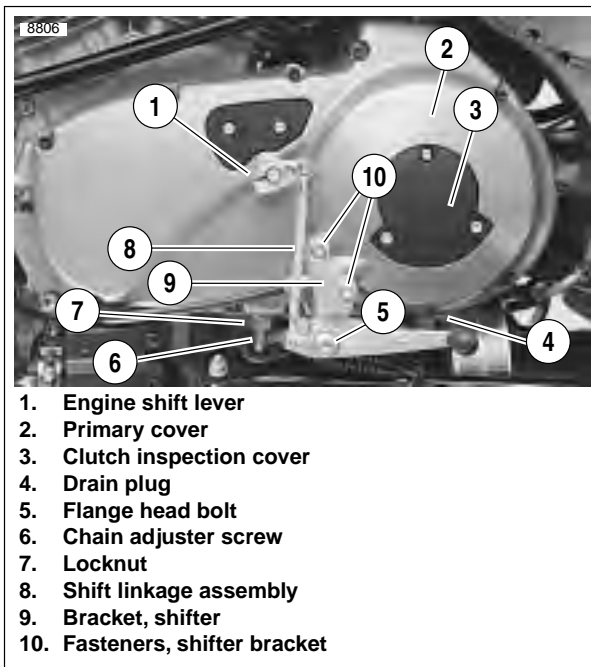

Figure 6-8. Removing Primary Cover
12. See Figure 6-8. Install shifter bracket (9) on primary cover (2) by applying loctite 271 (red) to fasteners and tightening to 22-24 **ft-lbs** (30-32.5Nm).
13. Install rubber washer and engine shift lever assembly (1).
14. After applying LOCTITE 271 (red), install flange bolt (5) and shift pedal to shifter bracket, and tighten to 22-24 **ft-lbs** (30-32.5 Nm).
16. If the shift linkage assembly (8) was removed for any reason, apply Loctite 271 (red) to fasteners and tighten to 36-60 **in-lbs** (4-6.8 Nm). Adjust to rider comfort.